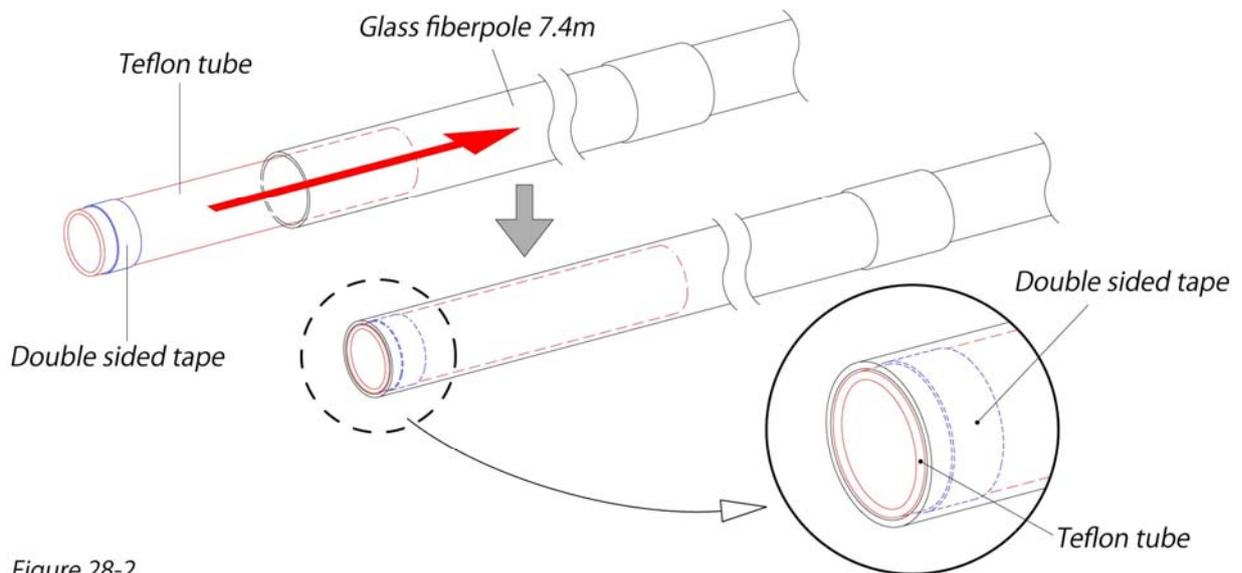

Figure 28-2
- Teflon tube is only used for KA1-400 Series AEU7m (Radiator) glass fiber pole. See 「Figure28-2」 to confirm